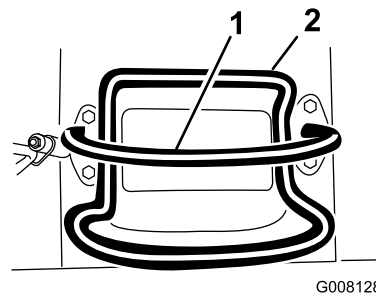

Figure 5
- To stop the machine, release the traction control (Figure 5).